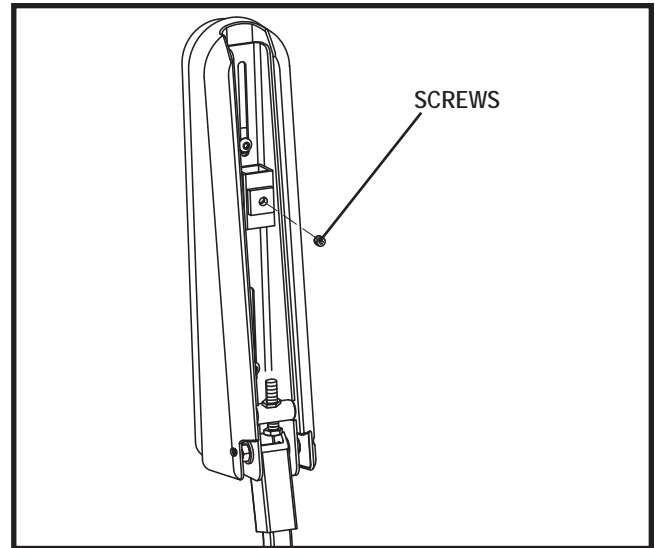

Figure 15. Underside of Armrest
2. Loosen the setscrew on the controller bracket. **See figure 15.**